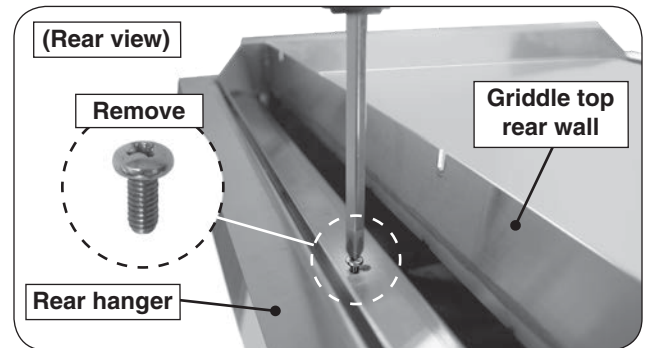

Fig. 31-2 Rear screw removal
2. Locate the screw found on rear of the griddle top and remove (see Fig. 31-2).